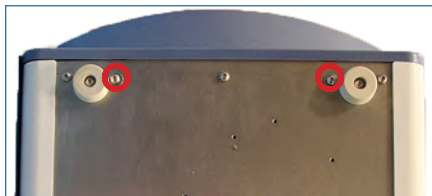

Figure 1
3. Using a 2.5 mm Allen wrench, remove the two (2) screws and washers on the bottom front of the unit (Figure 1).
7. Reinstall the two (2) screws to secure the front panel (Figure 1) and tighten using a 2.5 mm Allen wrench.
2. Loosen the three (3) nuts securing the strain relief using a 7 mm socket wrench (*Figure 1*).
3. Disconnect the connectors from the control board at J110 and J112 locations (*Figure 1*).